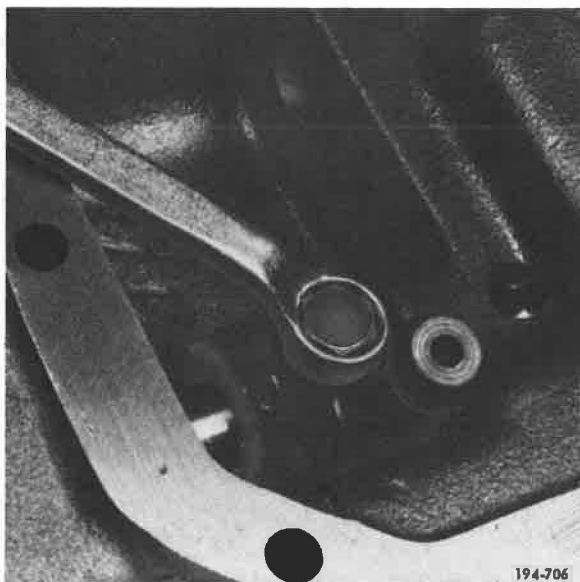

Figure 236. Installing Setscrew
7. Install Hi/Direct shifter set-screw, and tighten to 35 to 45 lb. ft. torque. Refer to Torque and Tolerance Table, Item 10. See Figure 236.